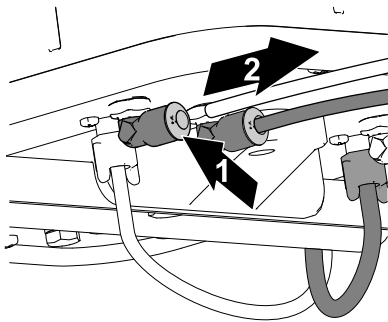

Figure 23
2. Press in the locking collar (**Figure 23**).
3. Pull out the tube from the fitting (**Figure 23**).